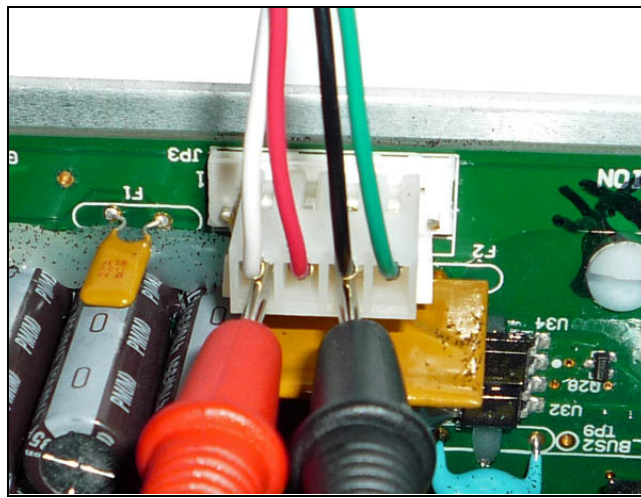

Fig. 9
1. Set the multi-meter to read DC voltage and take a reading between white and black wires (Fig. 9). The leads must be in contact with the pin in the plastic connector to get a proper reading. There should be approximately 12 volts DC.